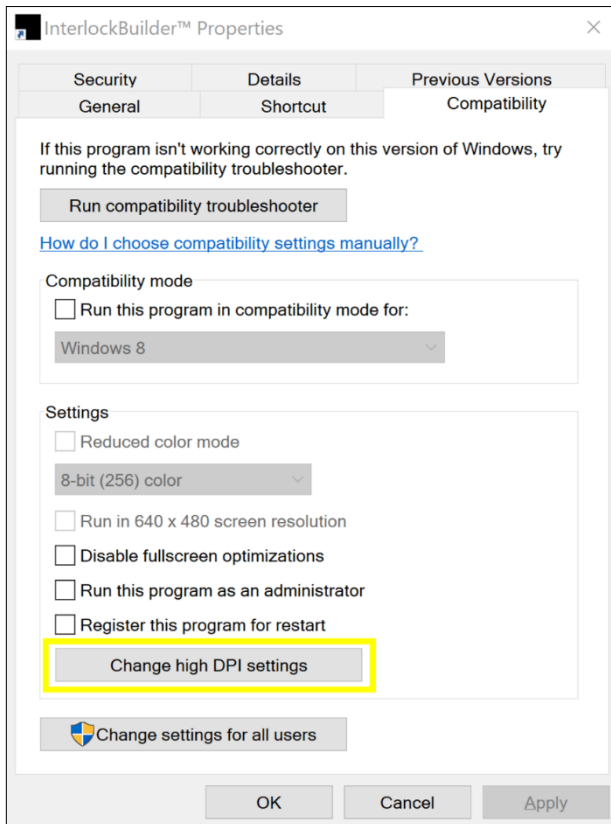

Figure 10 - Interlock Builder Application Properties
- 3) Select the Compatibility tab and click the “Change high DPI settings” button (Figure 10 - Interlock Builder Application Properties).